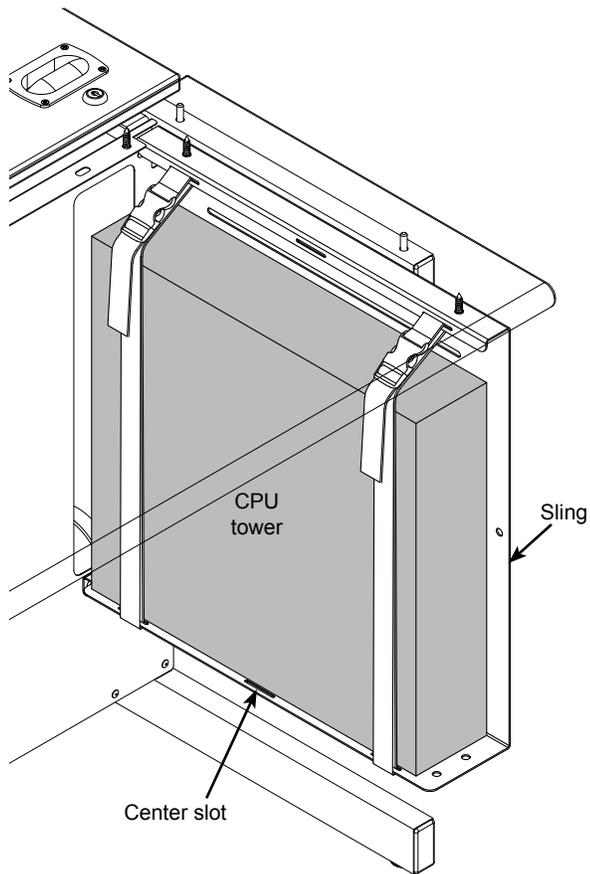
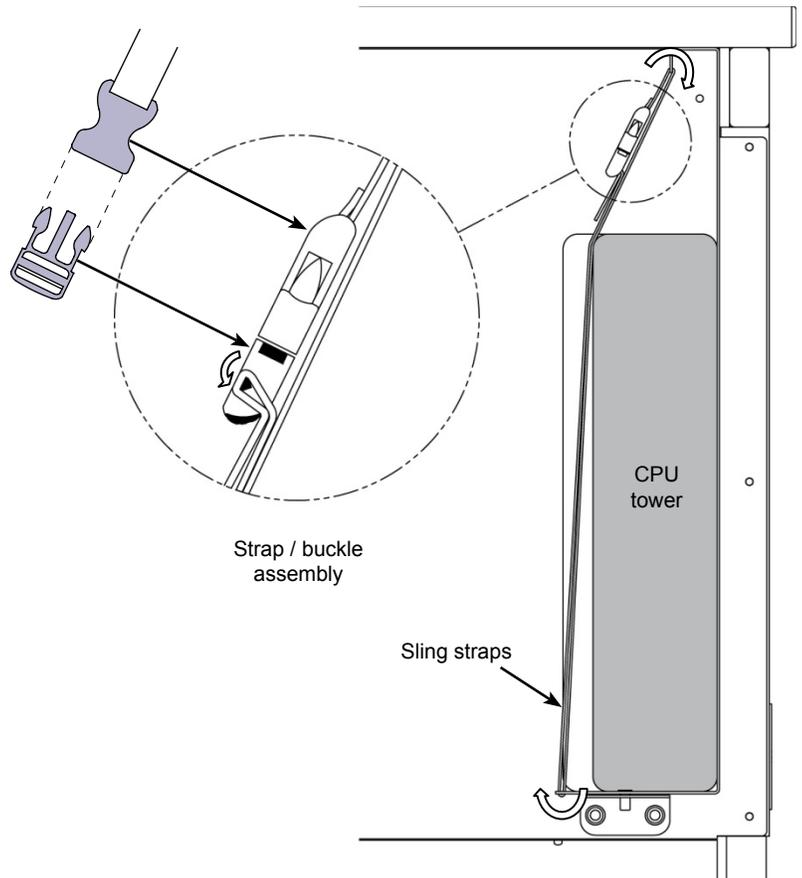

Figure 3B
Figure 3A
1. Using the slots, install the straps onto the sling. **Figure 3A.**
3. Make sure the CPU tower will be supported by both straps and tighten the straps while keeping the buckles positioned as high as possible to avoid interference. **Figure 3B.**
Note: The center slot can be used for better support of smaller CPU towers. If the center slot is necessary, take the rear strap out of the rear slot and thread into the center slot shown in **Figure 3B**. Thread the strap as shown in **Figure 3A**.